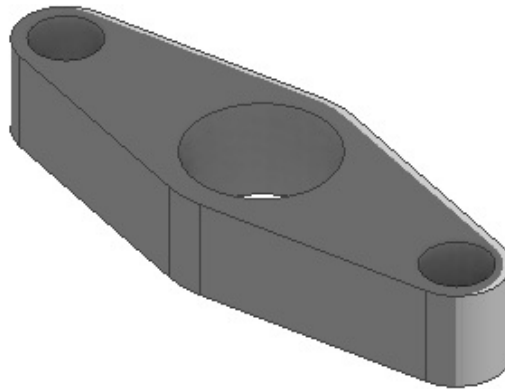

Figure 4-95 Object and ambient shadows applied on the model
2. In this drop-down, the **Ambient Shadows** check box is selected by default. Select the **Object Shadows** check box from the drop-down; the object and ambient shadows are cast on the model, as shown in Figure 4-95.